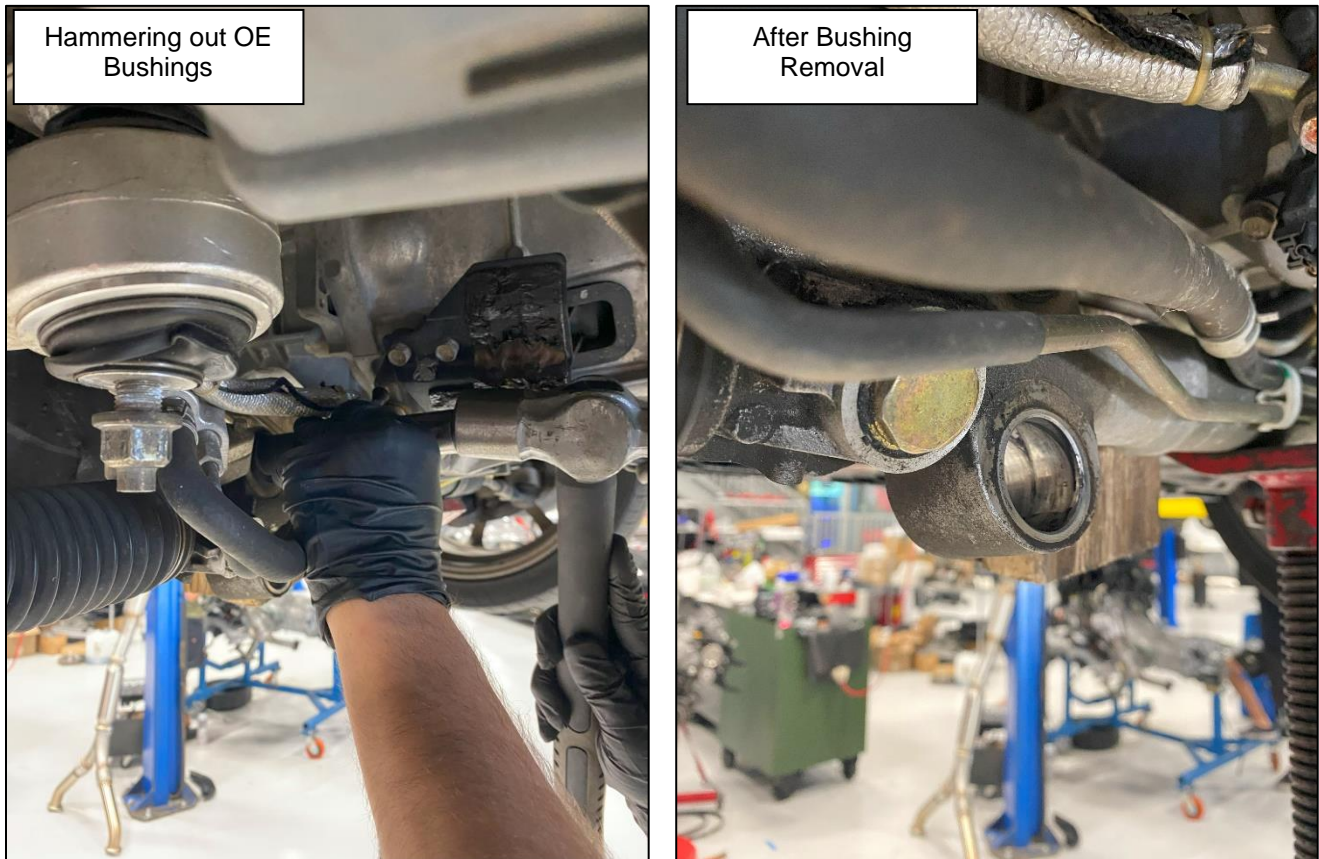

Figure 6
12. Remove the OE Rubber Bushings in the Steering Rack on the Driver's Side. There are multiple ways to go about this, we used a socket and hammer to hammer out our bushings. A C-clamp or Bushing Removal tool will work as well. *Figure 6*.